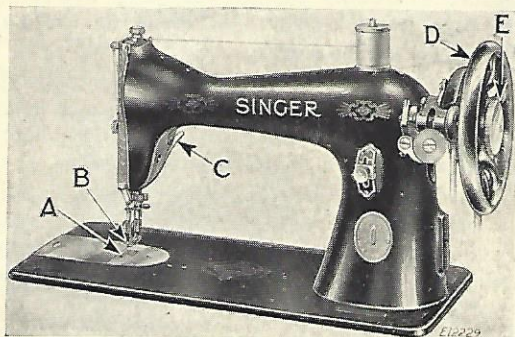

FIG. 2. FRONT VIEW OF THE MACHINE
To release the balance wheel (D, Fig. 2), turn the stop motion screw (E, Fig. 2) over toward you. It will be necessary to hold the balance wheel while loosening the stop motion screw.
Release the balance wheel (D, Fig. 2) by turning the stop motion screw (E, Fig. 2) over toward you. It is necessary to hold the balance wheel (D) while loosening the stop motion screw.